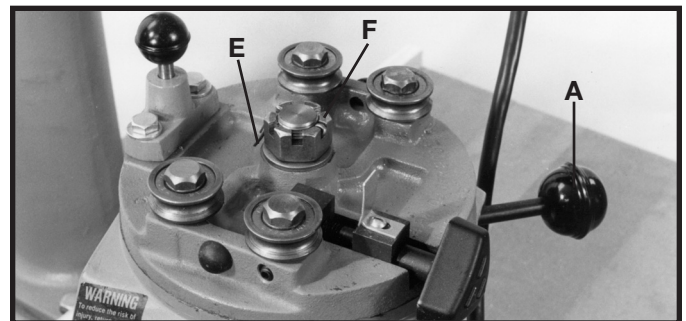

Fig. 38
5. Turn hex nut (F) Fig. 38, clockwise 60° and replace cotter pin (E).